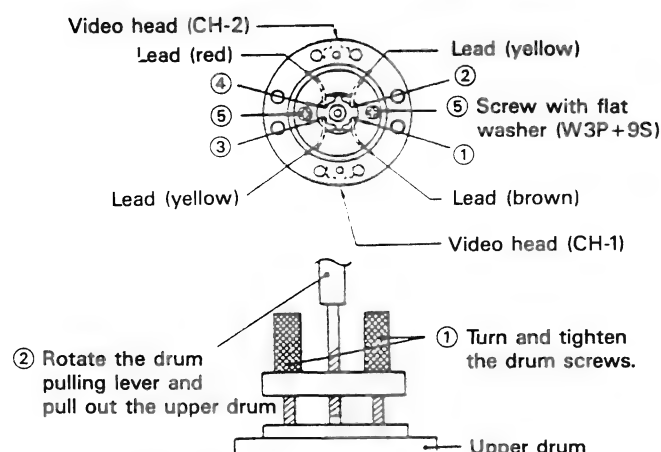

Figure 1-24.
### • Replacement (See Fig. 1-24)
1. Unsolder the leads ① to ④ from the video head and remove them.
2. Remove the two screws ⑤ (brass screws with washers (W3P+9S)) using a phillips screwdriver.
3. Withdraw the upper drum by pulling it up with the upper drum replacement jig. (Refer to Fig. 1-24).
1. Set the new drum for replacement, as shown in Fig. 1-24, and position the leads properly.